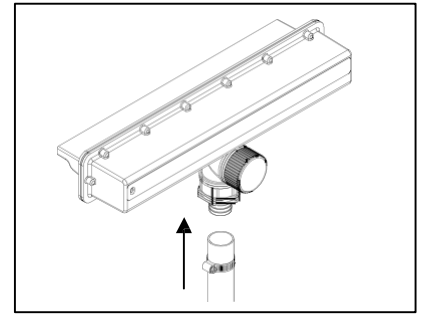

Fig. 5
- Slip the hose clamp on to the tubing but do not tighten it. Connect the tubing to the inlet of the spillway using the adapter. Fig. 5